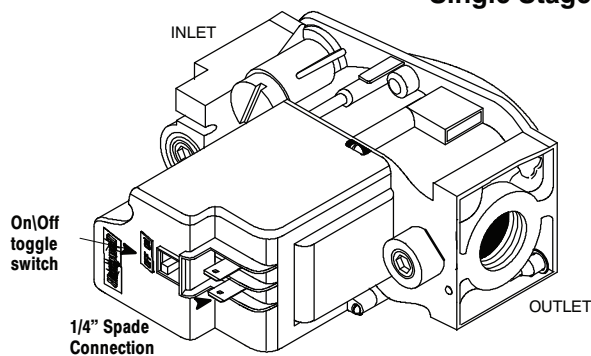

Fig. 3 - Gas Control Valve
3. Remove the burner compartment door by removing the two(2) screws securing the door in front and lifting the door up and outwards. Removing the door will expose the gas control valve knob.
4. Turn the gas control valve to the OFF position. See Fig. 3.
5. Wait five (5) minutes to clear out any gas. If you then smell gas, STOP! Follow the safety information on the cover of this manual. If you do not smell gas, go to the next step.
6. Turn the gas control valve to the ON position. See Fig. 3.
3. Remove the burner compartment door by removing the two (2) screws securing the door in front and lifting the door up and outwards. Removing the door will expose the gas control valve knob.
5. Turn the the gas control valve to the OFF position. See Fig. 3.